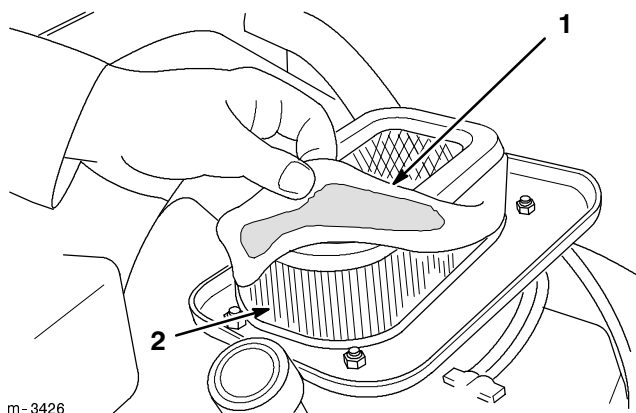

Figure 25
- Remove the elements and separate the foam element from the paper element (Fig. 25).
- Carefully slide the foam element onto the paper air cleaner element (Fig. 25).